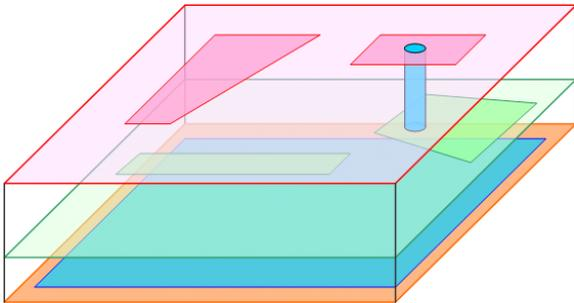

Figure 1.1 Structure analyzed by ES3D.
ES3D (*Electrostatic Field Solver for Multilayer Circuits*), Version 1.0, is a computer program used for the 3D electrostatic analysis of multilayer printed circuit boards (PCBs), low-temperature cofired-ceramic (LTCC) circuits, integrated circuits (ICs), microelectromechanical systems (MEMS), and similar structures used in radio-frequency (RF) and microwave (MW) devices, fast digital circuits and interconnects, and other hardware. An example of an analyzed structure is shown in Figure 1.1.